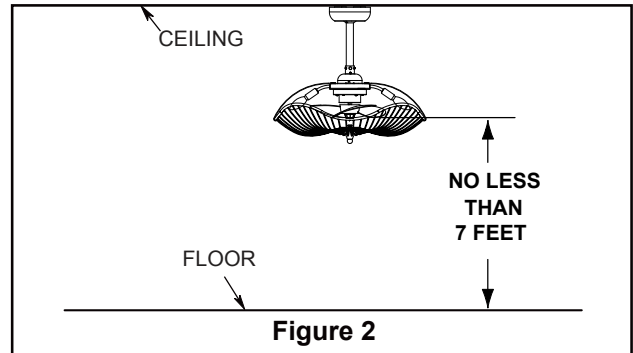

Figure 2
2. Remove the hanger ball portion from the downrod/hanger ball assembly by loosening the set screw in the hanger ball until the ball falls freely down the downrod. Remove the pin from the downrod, then remove the hanger ball. Retain the pin and hanger ball for reinstallation in Step 7. (Figure 2)
The fan must be hung with at least 7' of clearance from floor to blades. (Figure 2)
1. Slide the receiver into the hanger bracket with the flat side up towards the ceiling. as shown in. (Figure 2)